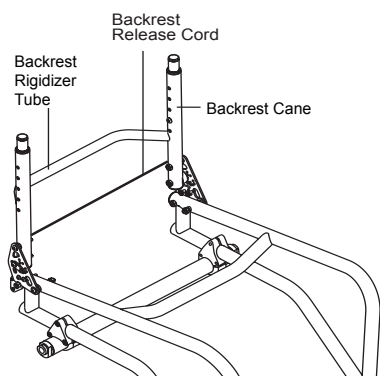
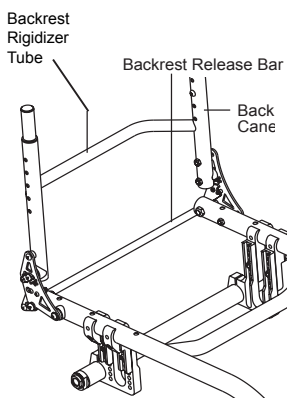

Figure 24
Figure 25
1. Grasp the backrest release cord (see Figure 24) or backrest release bar (see Figure 25) and pull up.